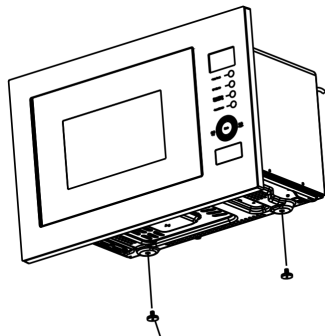

fig.3
- c) Install the two metal spacers in the bottom of product and fix them, as shown in Fig.3.
- d) Put the product into the cabinet till the metal spacers fall down, as shown in Fig.3.